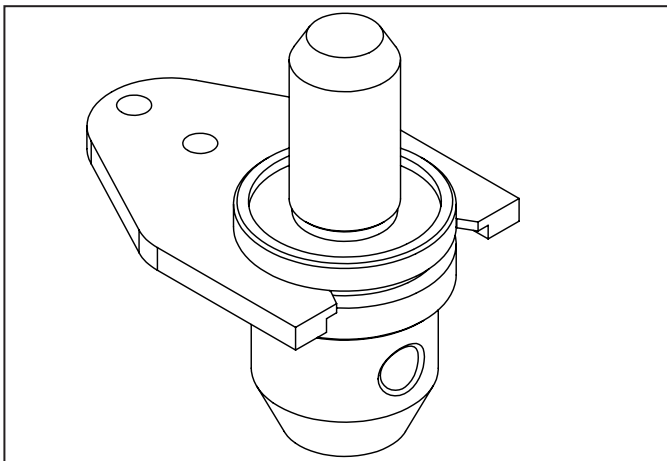

Figure 25
2. Insert the tool holder into the fork (see **Figure 25**). Make sure the groove in the tool holder slides along the shoulder on the fork.